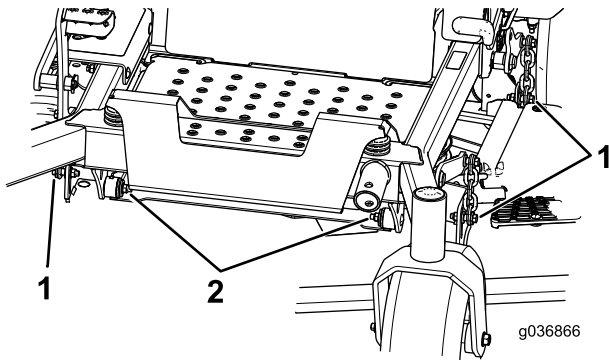

Figure 85
7. Remove and retain the bolts and nuts on both sides of the machine (Figure 85).